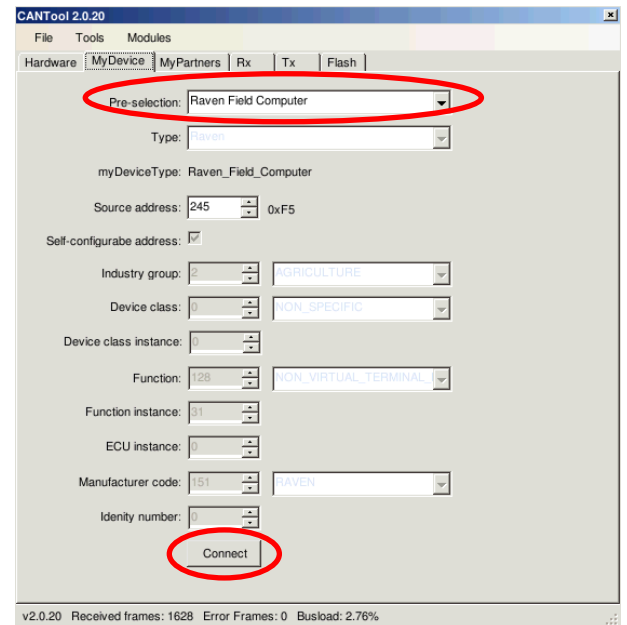

Figure 12 CANTool – MyDevice.
7. Select *Raven Field Computer* behind *Pre-selection* (Figure 12).
8. Click *Connect* (Figure 12).